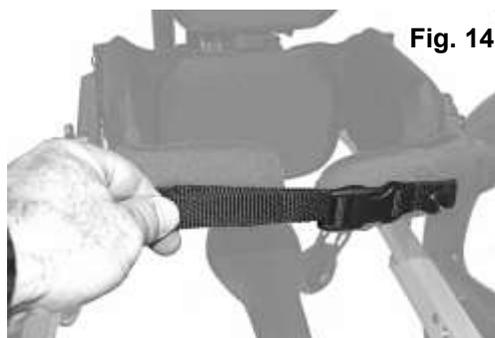

Fig. 14
- Snap the buckles together and pull strap snug (fig. 14).